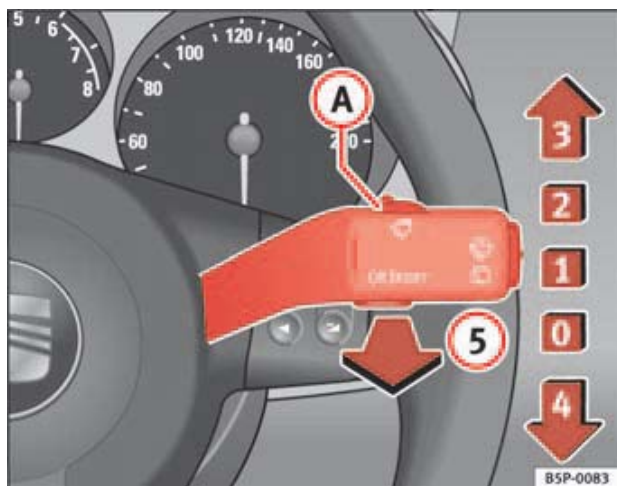

Fig. 81 Windscreen wiper and windscreen wash lever
The windscreen wiper lever ⇒ fig. 81 has the following positions:
- The next speed down will automatically be selected if speed **2** ⇒ page 119, fig. 81 or **3** is selected when the vehicle stops. The set speed will be resumed when the vehicle starts again.